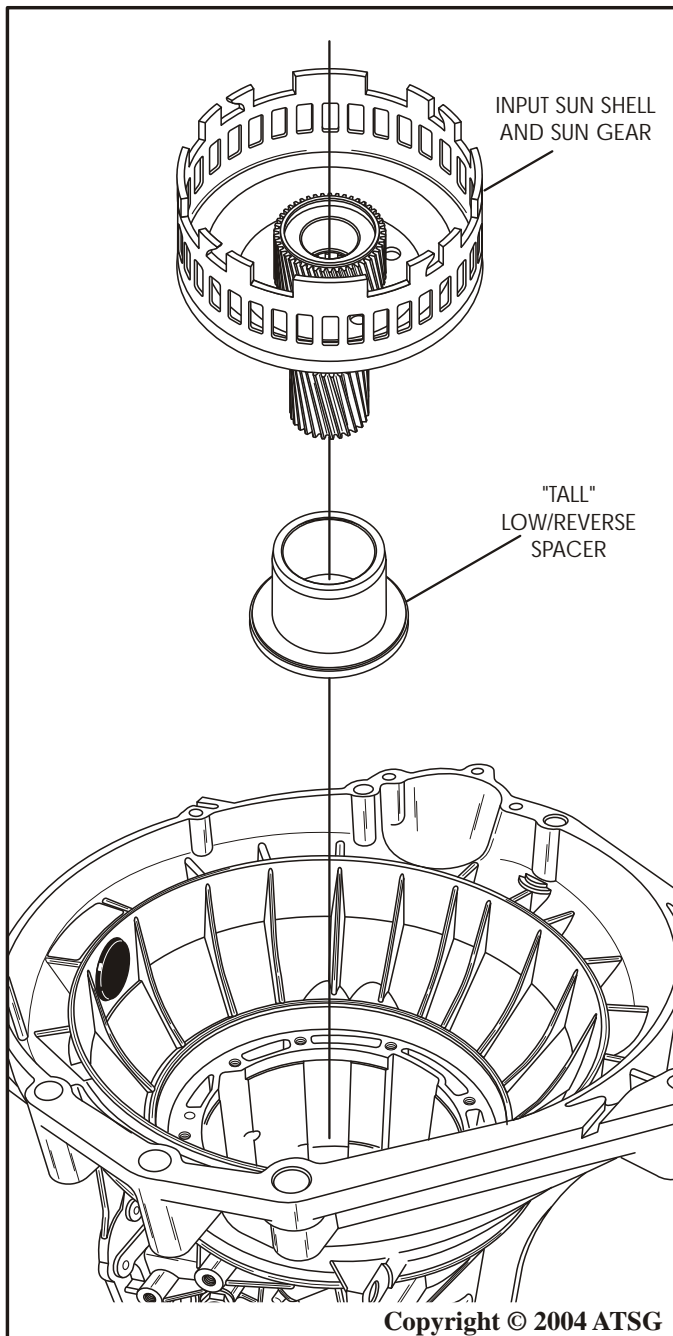

Figure 144
20. Install the "Tall" low/reverse spacer on top of the No. 8 thrust bearing, in the direction shown in Figure 144.
21. Install the input sun gear and shell assembly, as shown in Figure 144.